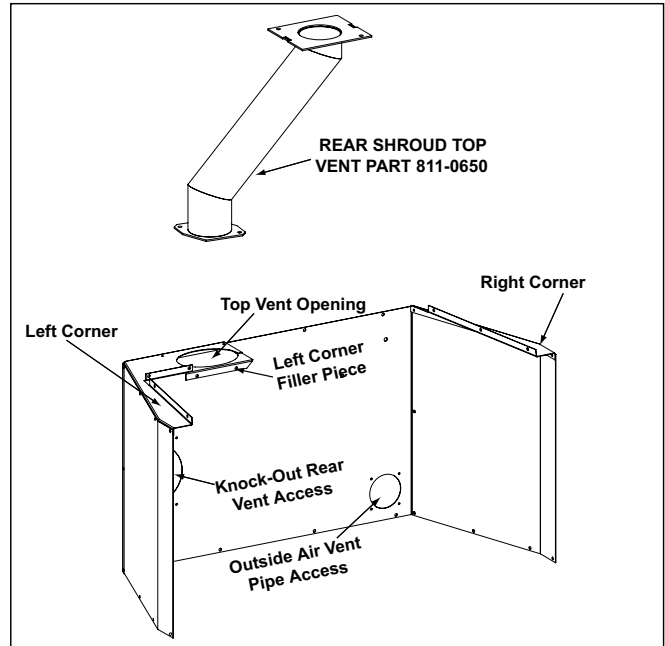

Figure 17.1
2. Use 2 screws to attach left corner filler piece of rear shroud to the insert hopper. **Figures 17.1 and 17.2.**
7. Use 2 screws to attach left corner filler piece of rear shroud to the insert hopper. **Figures 17.1 & 17.2** on page 17.